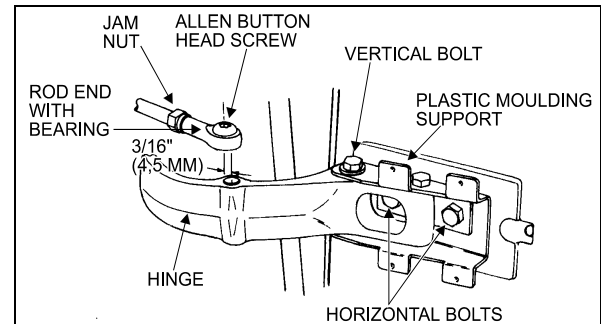

FIGURE 18: UPPER DOOR HINGE (COACH)
- Remove the Allen button head screw and the washer retaining the rod end with bearing to the upper hinge. See figure 18.
- Remove the Allen button head screw and the washer retaining the ball and socket rod to the upper hinge. See figure 18.
3. Remove the Allen button head screw and the washer retaining the rod end with bearing to upper hinge. See figure 18.